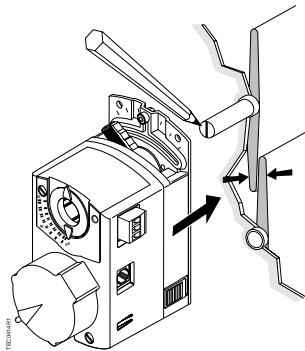

Figure 8. Mounting the actuator.
3. Close the damper blades, Figure 8.
4. Mark the end of the damper shaft with a pencil/marker, Figure 8.
6. Mount the actuator on the damper shaft, Figure 8.